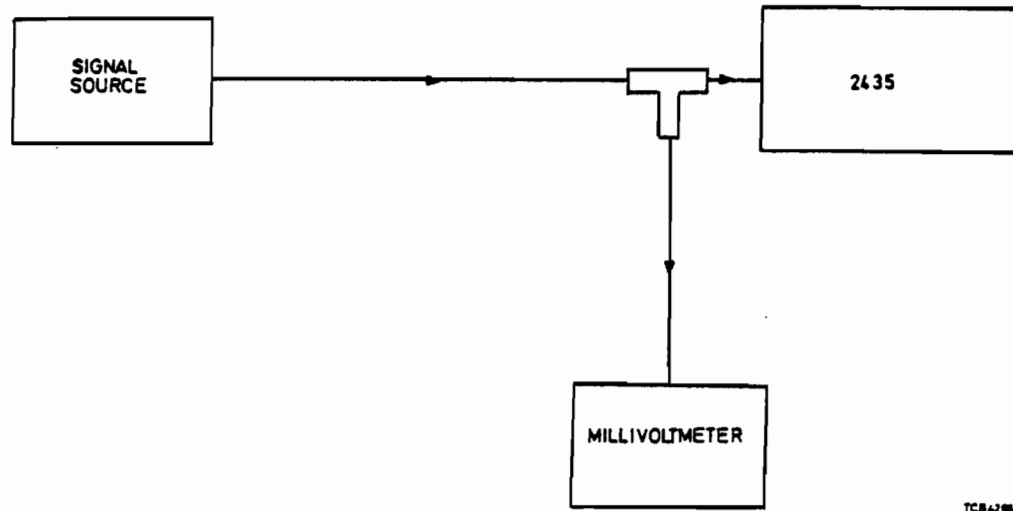

Fig. 3 Test gear arrangement to check channel B sensitivity.
- (1) Connect the test equipment as shown in Fig. 3 using a 10 Hz signal source and an l.f. millivoltmeter.
- (2) Connect an accurately known 1 MHz standard frequency signal to the EXT STD input socket. Level to be within 150 mV to 10 V r.m.s.
30. The following information is given as a guide to the correct input and outputs of the transfer oscillator unit. Use the oscilloscope to monitor the waveforms at plug A. Chap. 7, Fig. 3 shows connections.